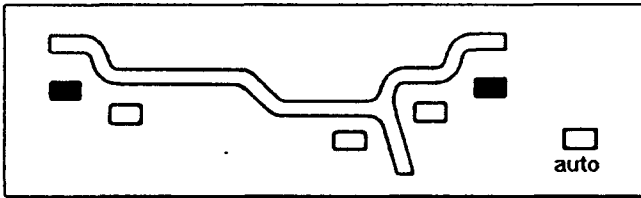

Fig. 32
**A. TRUCK DYNAMIC** (two planes), suggested for all steel truck rims. In this case the wheel weights must be clipped onto the rim edges. This function is selected as a default and the LEDs corresponding to the wheel weight location are lit on (Fig.32).